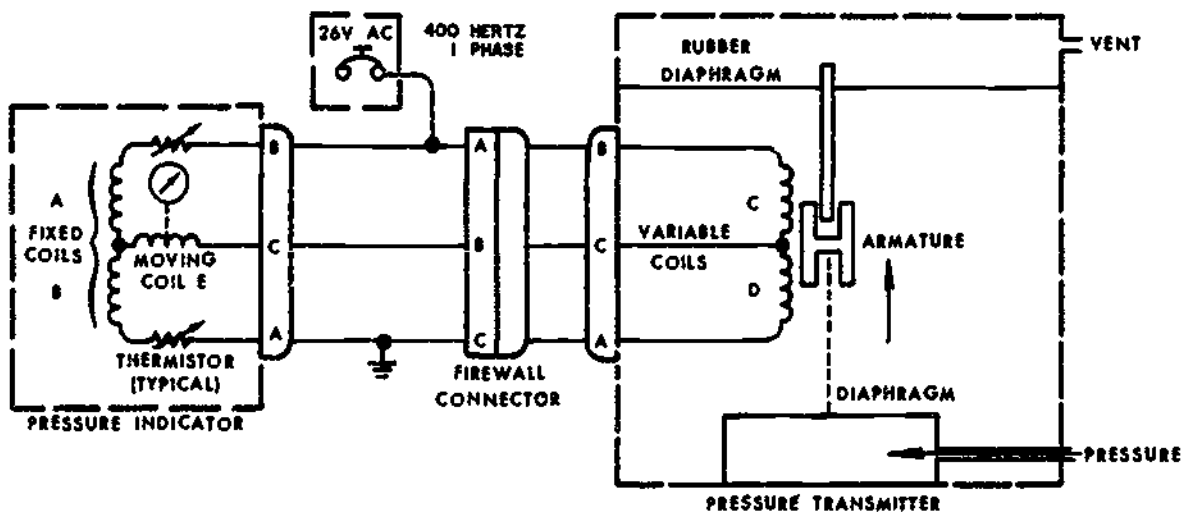

Figure 27.
Electrically, the variable coils C and D of the transmitter are connected in series. See figure 27. Both of these coils have the same inductive reactance or opposition to current flow as long as the armature is centered. The applied voltage, shown in figure 27, is 26VAC. Since the coils are connected in series and each one has the same inductive reactance, the voltage drop across each coil is approximately 13 volts. For ease of explanation we will disregard the small voltage drop across the thermistors. When the indicator is connected to the transmitter, an AC bridge circuit is formed. When the voltage drops across coils A, B, C, and D are equal, the bridge circuit is balanced, and no current will flow through moving coil E. At this time, the pointer of the indicator is on zero.
Refer to figure 27 to answer the following questions. Circle the letter of the correct response to the following statements.
1. With the armature centered as shown in figure 27, the voltage drop across coils C and D is
When pressure is applied to the pressure diaphragm of the transmitter, the armature will move. See figure 27. The arrows represent an increase in pressure and will affect the direction that the armature moves. Since the armature is made of a material that has a low reluctance, the movement of the armature causes the inductive reactance of coils C and D to change. The voltage drops across coils C and D are no longer equal, and the bridge circuit is unbalanced. Current will now flow through moving coil E, causing the pointer of the indicator to move up-scale.
2. As inductive reactance increases (figure 27), voltage drop will